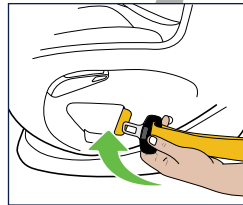
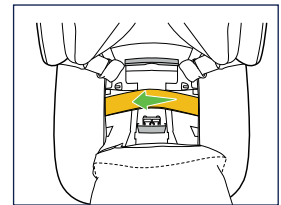
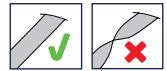

Figure 8
Figure 9
Figure 10
Step 2. Follow the installation path labels (Figure 8) and feed the seatbelt over the open SMART Lock® (Figure 9) and through the slots at the opposite side of the seat (Figure 10).